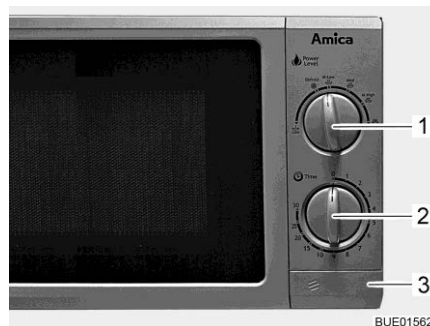

Fig. 180 Operating controls (microwave oven)
- Press the key (Fig. 180,3) to open the door and place food into the cooking area.
- Select the output on the control knob (Fig. 180,1).
- Select the cooking time with the control knob (Fig. 180,2). Cooking begins.
- Press the key (Fig. 180,3) to open the door and take out the food.